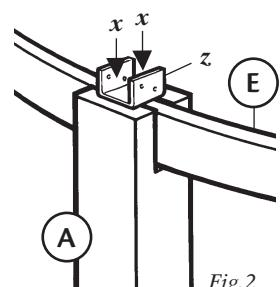
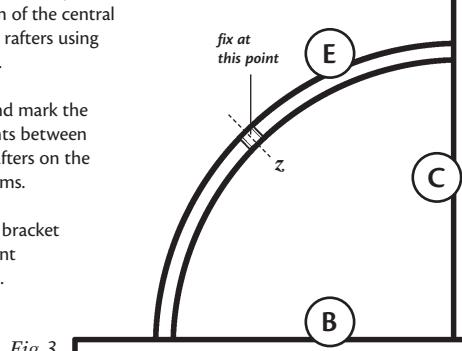

Fig.2
Fig.3
- Fix Metal Brackets (z) at the top of each post as shown in Fig.2
- Fix Rafters (B) and (C) together and locate in the metal brackets at the top of the posts. Ensure the rafters are equally spaced at the end of the metal brackets and fix in place with screws (x).
- Fix a metal bracket at each point (see Fig.3).